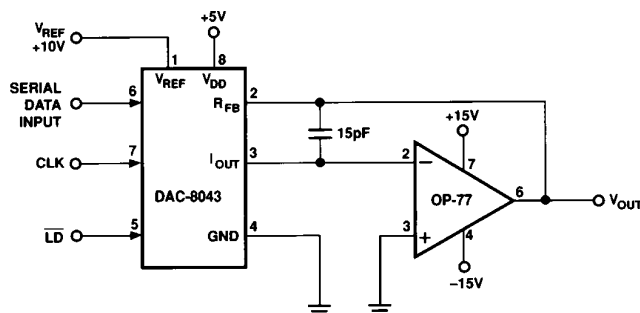

Figure 5. Unipolar Operation with High Accuracy Op Amp (2-Quadrant)
1. Phase compensation (see Figures 5 and 6).
In most applications, linearity depends upon the potential of I_{OUT} and GND (pins 3 and 4) being exactly equal to each other. In most applications, the DAC is connected to an external op amp with its noninverting input tied to ground (see Figures 5 and 6). The amplifier selected should have a low input bias current and low drift over temperature. The amplifier's input offset voltage should be nulled to less than +200 μV (less than 10% of 1 LSB).
The circuit shown in Figures 5 and 6 may be used with an ac or dc reference voltage. The circuit's output will range between 0 V and approximately $-V_{REF}$ (4095/4096) depending upon the digital input code. The relationship between the digital input and
The transfer function for the DAC8043 connected in the multiplying mode as shown in Figures 5, 6 and 7 is: